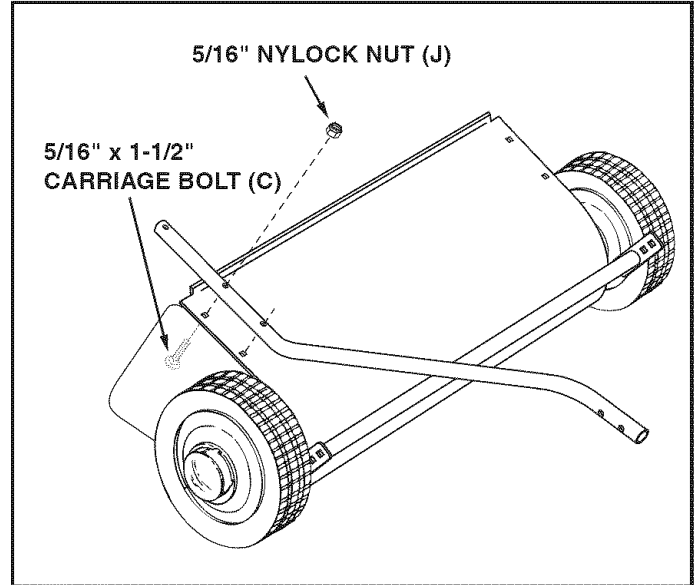

FIGURE 5
STEP 5: (SEE FIGURE 5)
- Assemble the R.H. hitch tube to the sweeper housing using two 5/16" x 1-1/2" carriage bolts (C), and two 5/16" nylock nuts (J). **Do not tighten yet.** Repeat for the L.H. hitch tube.